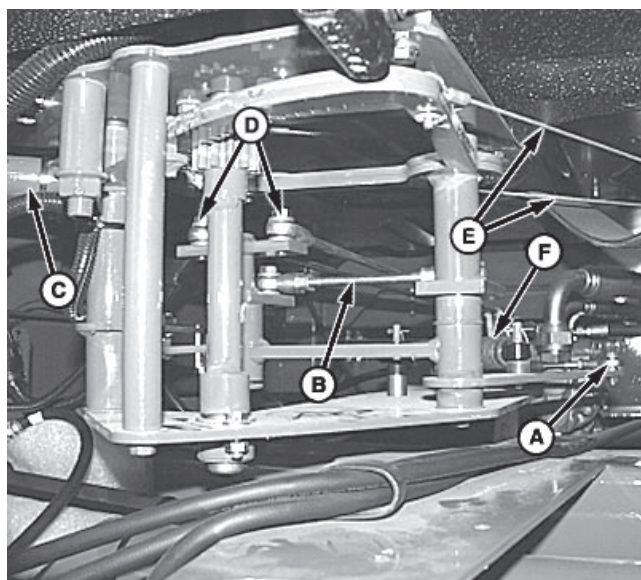

Figure 80. Steering/Hydrostatic Linkages
Steering controls are combined with forward and reverse hydrostatic ground drive controls and use a common linkage (D) (see Figure 80).
Centering cables (E) will return steering wheel and steering controls to center position when steering wheel is released (see Figure 80).
NOTE: Dampener (F) will allow the unit to be safely stopped in a very short distance. There is no need to try and over-power the dampener (see Figure 80).